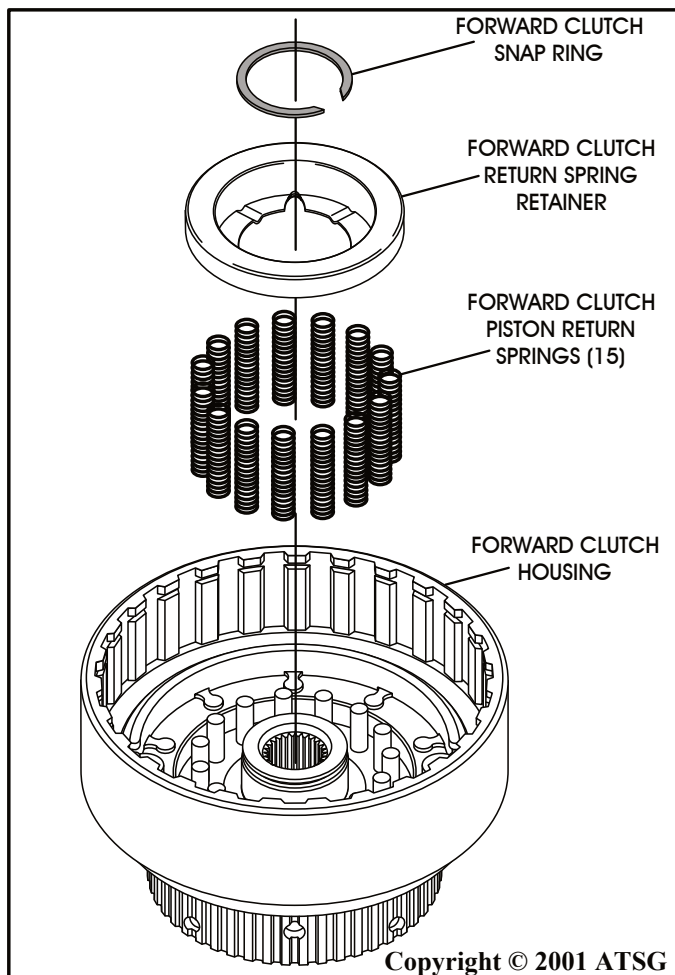

Figure 87
9. Install the forward clutch piston return springs on the piston, as shown in Figure 87.
10. Install the spring retainer on top of the springs, as shown in Figure 87.
11. Compress the return springs and retainer and install the spring retainer snap ring, as shown in Figure 87.